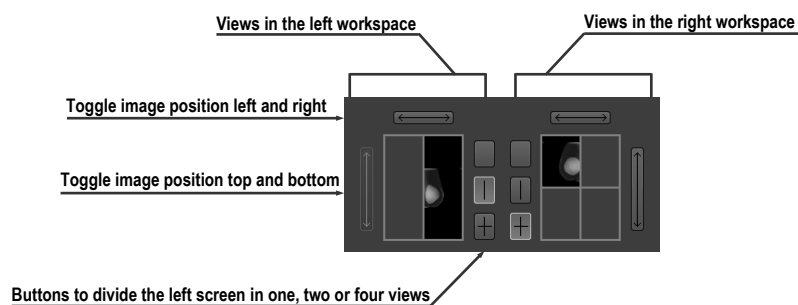

Figure 380 – Screen layout section of the image navigator
- Click the desired rectangle in the screen position indicator representing the view in the working area (see Figure 380). The image is displayed in the appropriate view in the mammography workspace on the left or right monitor.
The screen layout area of the image navigator (see Figure 380) displays the screen previews of both monitors and allows you to set the workspaces on the left or right monitor to one view or to divide them into two or four equally sized views and toggle the views of the same workspace.